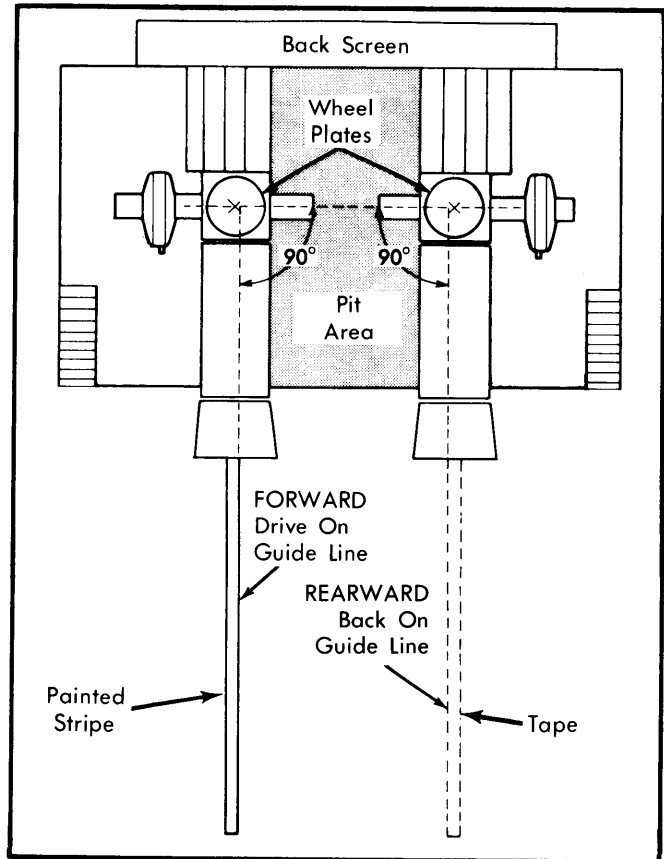

Fig. 16 Typical Alignment Machine Set Up For Eldorado & Seville Rear Wheel Alignment
- 1) Place tape on floor from alignment wheel plate rearward for 20 feet. See Fig. 16. Back vehicle onto alignment machine as straight as possible, with rear wheels on wheel plates.